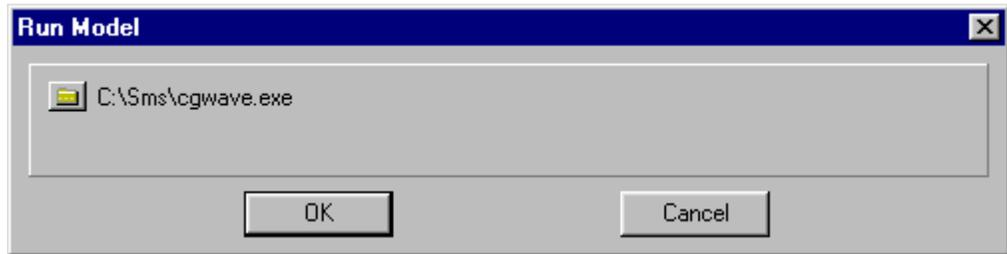

Figure 9.4 Run CGWAVE dialog.
4. Select *CGWAVE / Run CGWAVE*. A dialog appears showing the engine that will execute as shown in Figure 9.4.